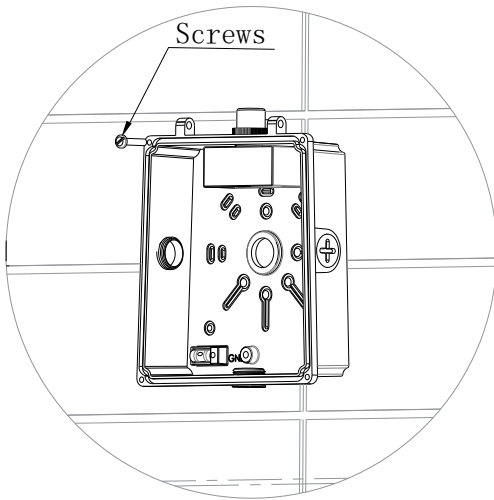

Fig. 1
1. Knock out appropriate slots. Secure Housing to a sturdy wall. Check the Gasket is fully sealed. (Fig 1)